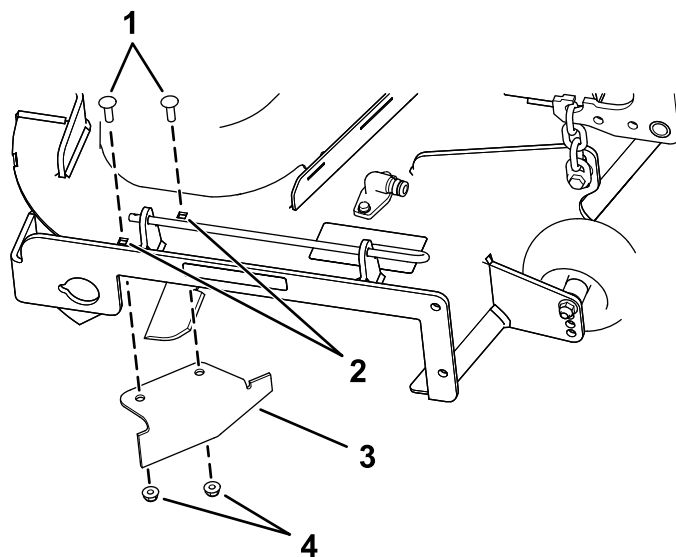

Figure 15
9. Locate the cutoff baffle in the loose parts bag and remove the fasteners at the rear holes of the discharge plate (Figure 15).